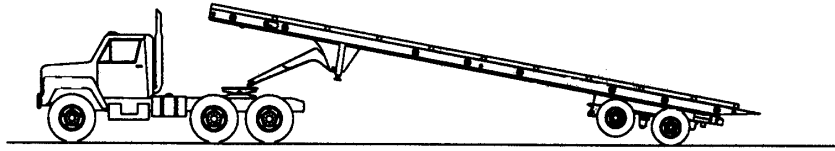

**Figure 3-5: Container Load Chain and Stop Pins**
- f. Install stop pins in lower front hole of blocks at front sides of trailer (**See Figures 3-5 and 3-6.**)
- h. Insert hold-down pins into rear holes of blocks at front sides of trailer (**See Figures 3-5 and 3-6.**)